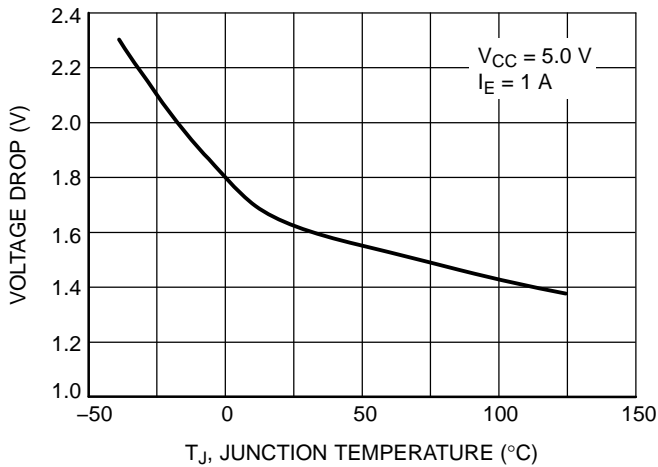

Figure 5. Emitter Follower Configuration Output Darlington Switch Voltage Drop vs. Temperature
9. V_{SWCE} – Darlington Switch Collector to Emitter Voltage Drop, refer to Figures 5, 6, 7 and 8.